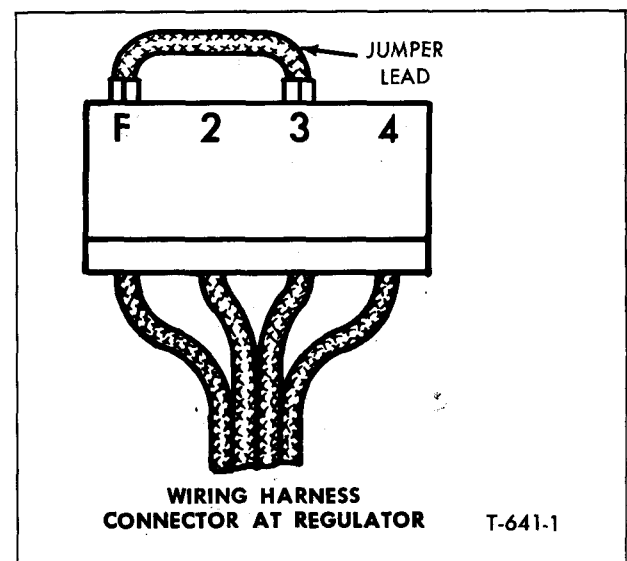

Figure 8—Generator Output Test (Jumper Lead Connections at Regulator) (Except 9000590 Regulator) (Typical)
4. Pull latch on regulator upward to disengage from connector, then pull wiring harness connector from regulator. Connect a jumper lead between "F" terminal socket and #3 socket as shown in figure 8.